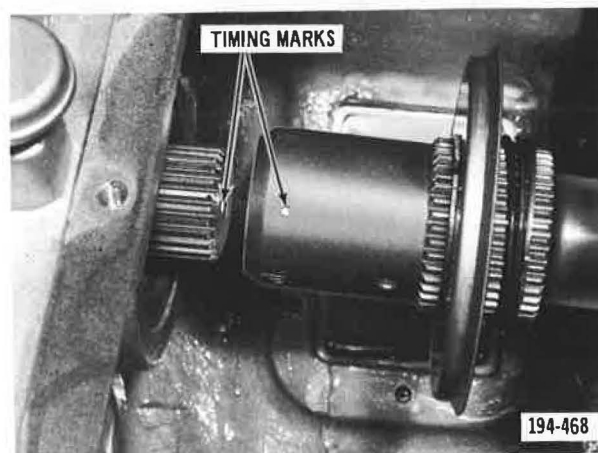

Figure 5-100. Aligning Timing "O" Mark on Rear Countershaft with Front Countershaft
14. Observe timing "O" marks on front and rear countershaft splines. See Figure 5-100. Align timing "O" marks on rear countershaft with timing "O" marks on front countershaft and continue advancing shaft until the countershaft rear bearing positioning snap ring seats against case.